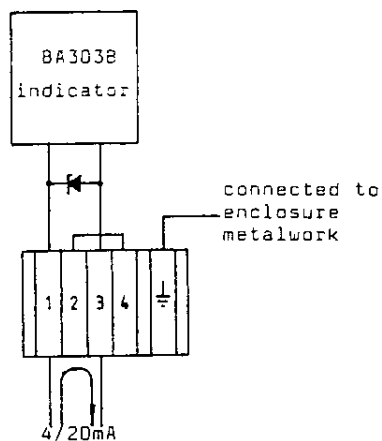

Fig 8 Terminal connections
- vi Connect the field wiring to the terminals as shown in Fig 8. The earth terminal, which is internally connected to the enclosure die-casting, should be connected to a local earthing point to ensure personnel safety. This earth connection is not associated with the intrinsic safety of the indicator.